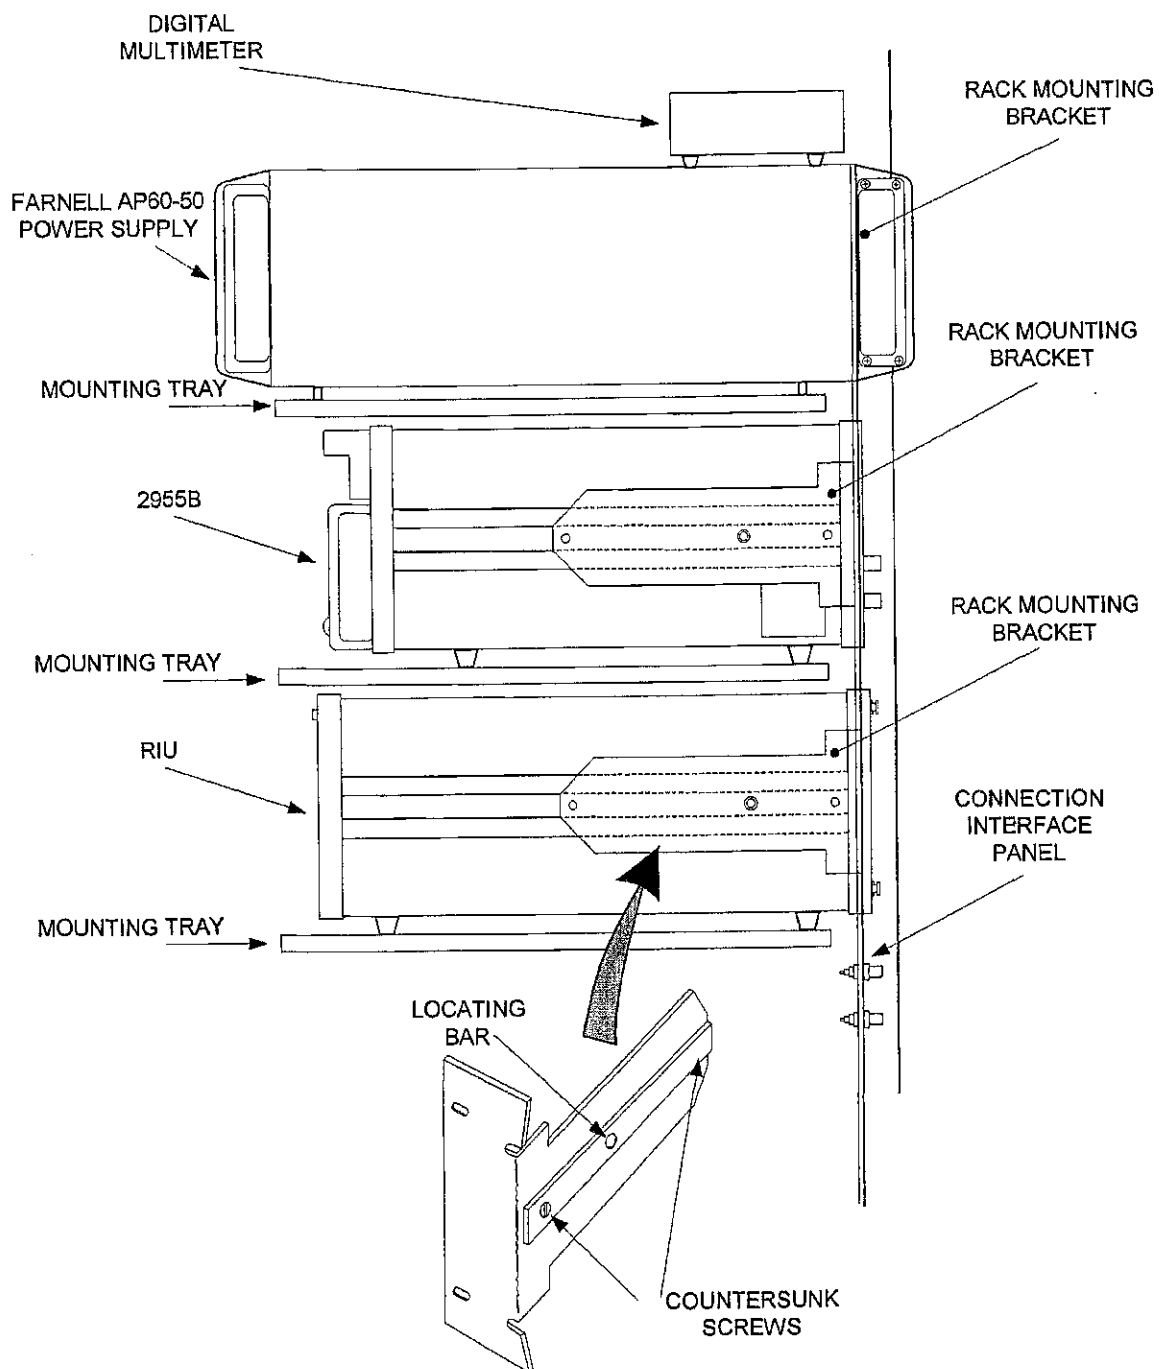

Fig 1 Rack Installation
- 3 With reference to Fig 1, install the 8920C Radio Test System equipment into the 19-inch racking, as follows:
- 3.4.3 Fit a locating bar (Fig 1) to each rack mounting bracket, using the M5x12 counter-sunk screws provided.